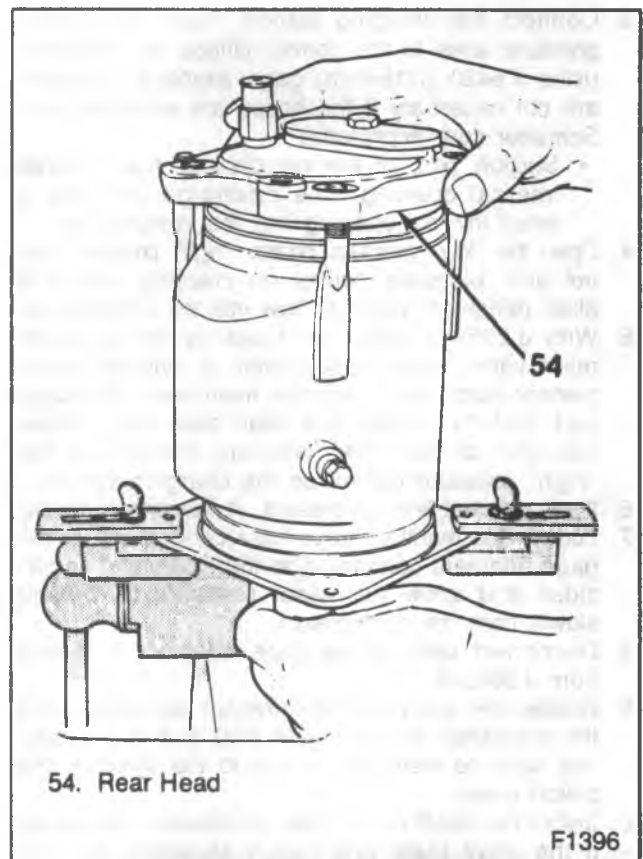

Figure 51—Installing The Rear Head
26. Rear head (54) to the shell (9) (figure 51).
- Do not let the suction screen (58) fall out of the rear head (54).
- If the rear head (54) will not slide down over the dowel pins (45), twist the front head (16) back and front by hand until the rear head (54) drops over the dowel pins (45).
- Nuts (53) to 35 N·m (25 ft. lbs.).
27. Shaft seal (14).
28. Clutch coil (8).
29. Pulley (6).
30. Clutch (2).